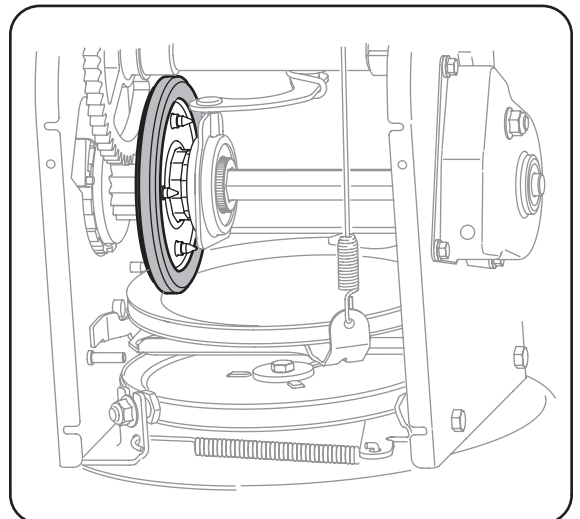

Figure 6-11
4. Examine the friction wheel for signs of wear or cracking. See Figure 6-11.